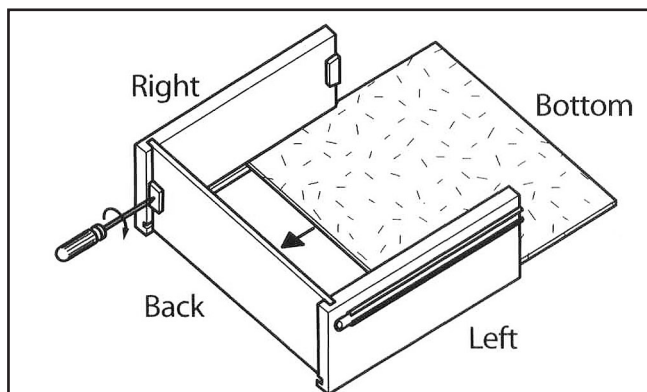

Figure 11. Drawer assembly.
22. Using a standard screwdriver, assemble the right and left drawer sides to the drawer back. Then slide the drawer bottom into the drawer side grooves (**Figure 11**) until it is fully seated in the back groove.